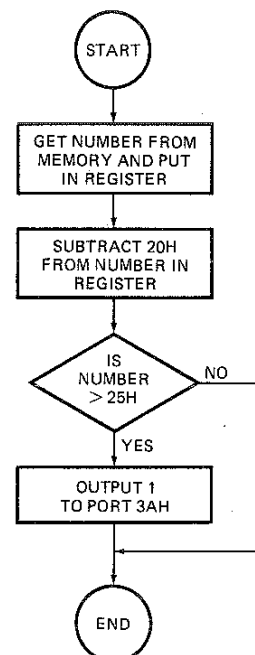

FIGURE 3-1. Flowchart for algorithm for question 6.
- b. Flowchart: See Figure 3-1.